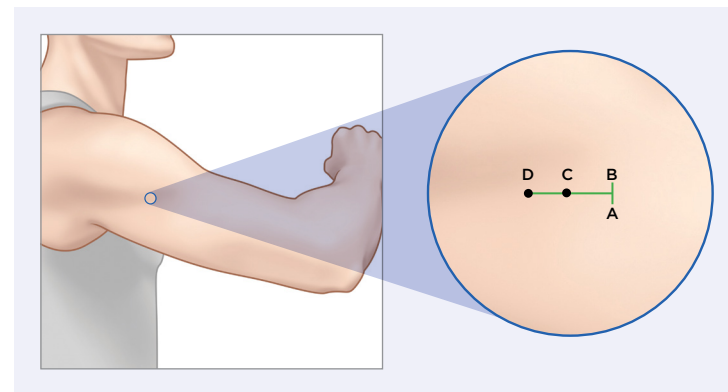

Figure 1
Local anaesthesia (approximately 2 mL of Lidocaine) should be injected approximately 5 mm along the planned incision (along AB) and approximately 30 mm perpendicular to the planned incision (along CD) which is the planned track of the blunt dissector tool. (Figure 1).
Start incision at point B (Figure 1) and go towards point A, until the incision is approximately 5 mm.
2. Remove the blunt dissector from the tray and introduce the blunt dissector at approximately a 45 degree entry angle at the midline between A and B (Figures 1 & 2) so that the tip and tapered portion of the blunt dissector are under the skin, and until the depth guards are touching the skin.